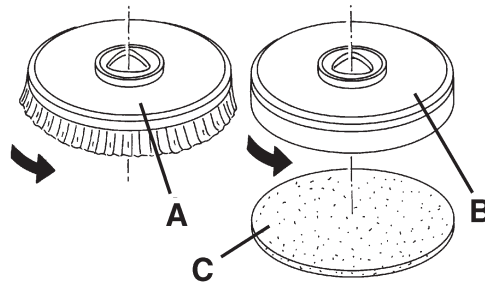

Figure 1
1. Place the brush (A, Fig. 1) or the pad-holder (B) under the deck (14).
2. Lower the deck on the brush/pad-holder by pressing the pedal (8).
3. Connect the power supply cable (3) to the electrical mains.
4. Engage the brush or pad-holder by pressing the switch (51) for a few seconds.
5. Press one of the switches (55) to engage the brush or the pad-holder.